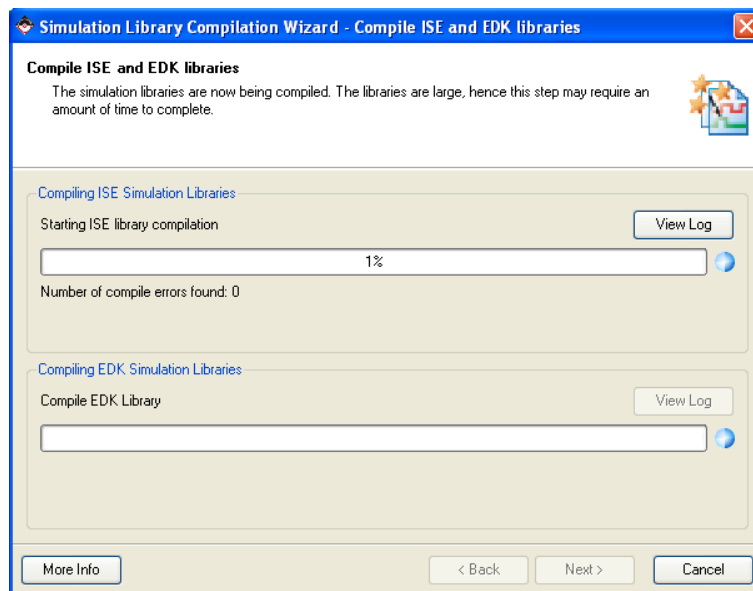
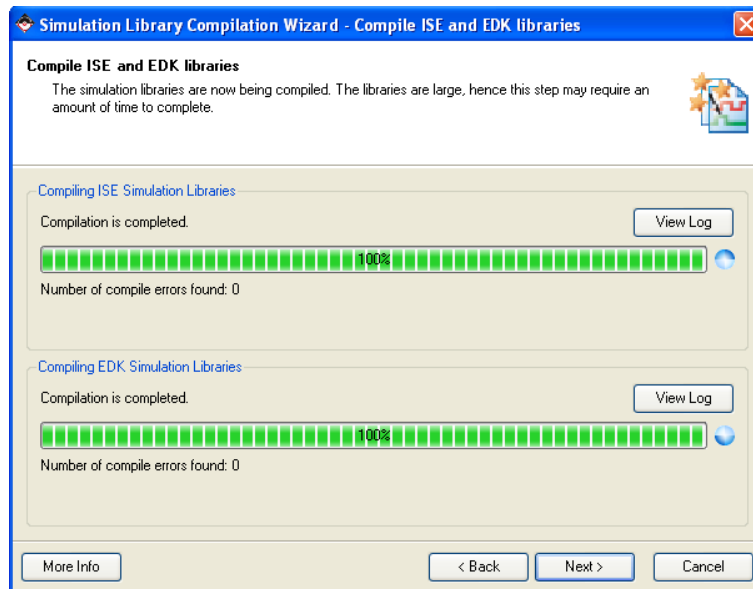

Figure 10: Simulation Library Compilation Wizard - Compiling ISE and EDK library (start)
Figure 11: Simulation Library Compilation Wizard - Compiling ISE and EDK library (completed)
- Now the compilation process will start as shown in Figure 10. The compilation process will take some time. When the compilation process complete the wizard window will be as shown in Figure 11. When the compilation process complete, the library files will be stored in the directory specified in the previous steps. The files can be used later for the simulation processes by selecting these directories with other designs. **Click Next** to continue.